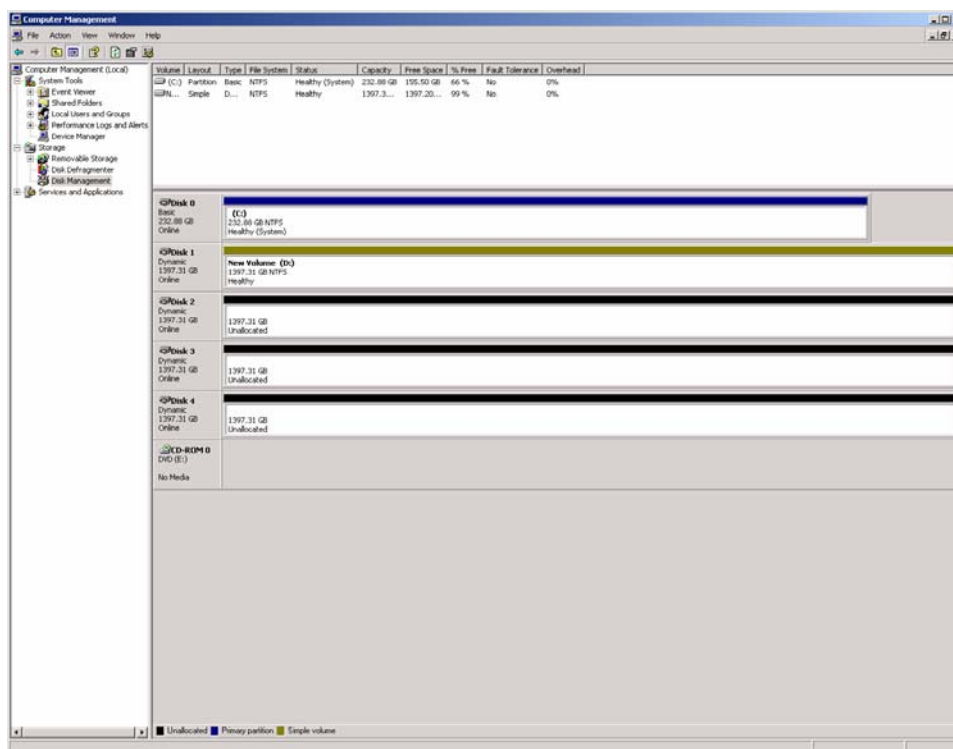

FIGURE 6-28. Computer Management Screen, Showing the New Volume for Disk 1.
6. The *Computer Management* screen appears. It shows the settings of “New Volume (D:)” for Disk 1. See Figure 6-28.